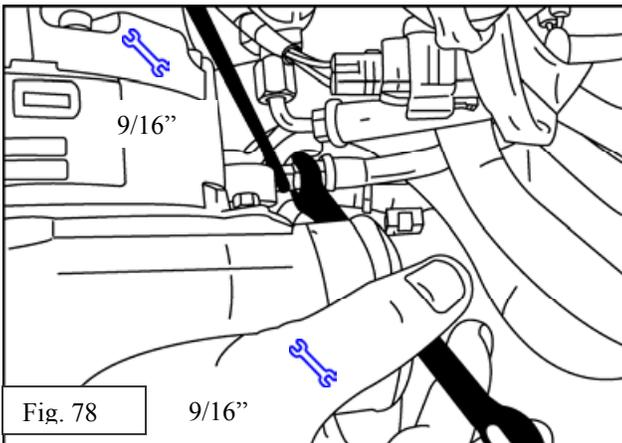

Fig. 78
- (d) Now **carefully** tighten both ends of the Oil Feed Line (9/16" wrench) and recheck for clearance around line. Loosen and re-clock as needed until line is clear and then re-tighten into place. Fig. 78. **Do not over-tighten AN fittings!**